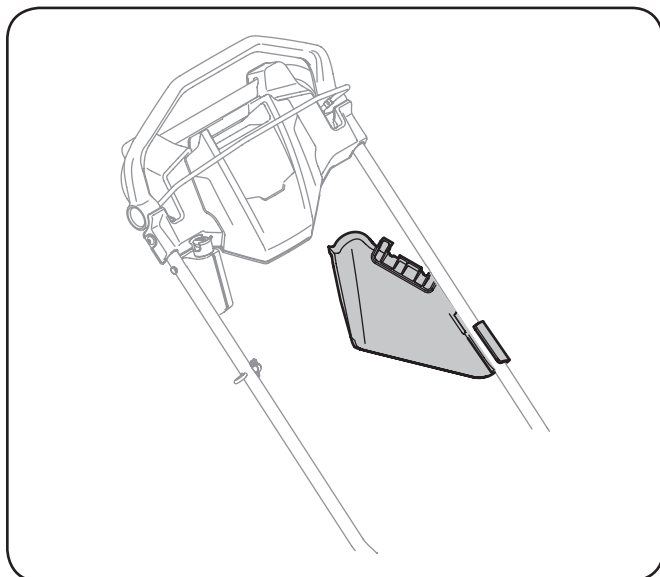

Figure 7-4
- Secure side discharge chute to handle as shown in Figure 7-4.